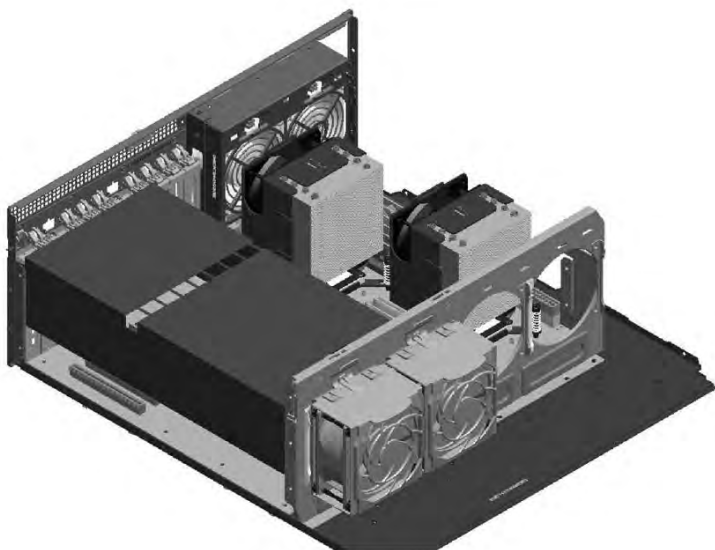

Figure 6-19. GPU Kit Air Shroud Installed
13. Install the GPU air shroud. (Figure 6-19)